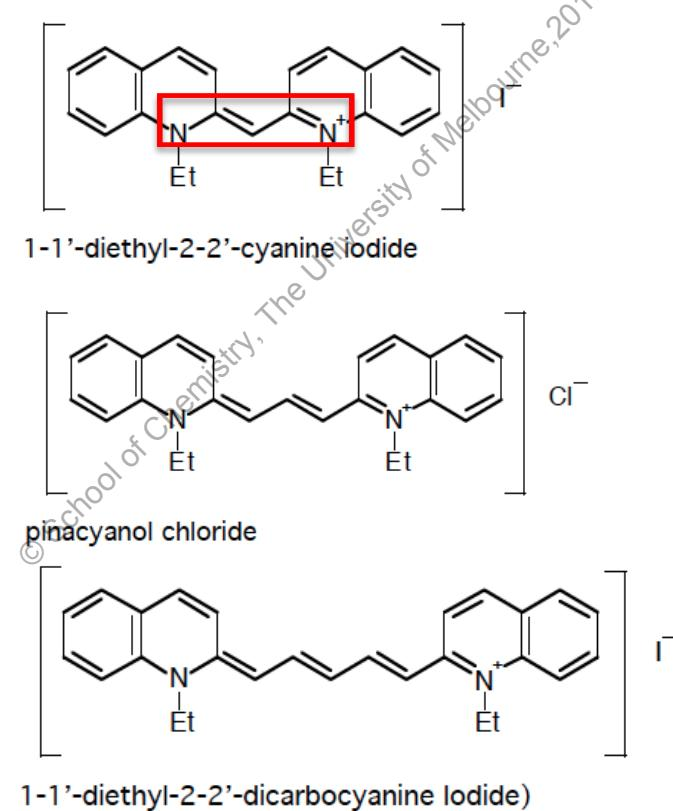

Figure 10.1: Conjugated cyanine compounds to be studied
You will be provided with three conjugated dyes and their structures are given below in Figure 10.1. The *square brackets around the molecule below* shows the region of the “box”, where the electron is delocalised over the Carbon atoms between the two Nitrogen atoms.
- a) Determine the number of participating Carbon atoms,  $p$ , for each of the three dyes (refer to Figure 10.1).